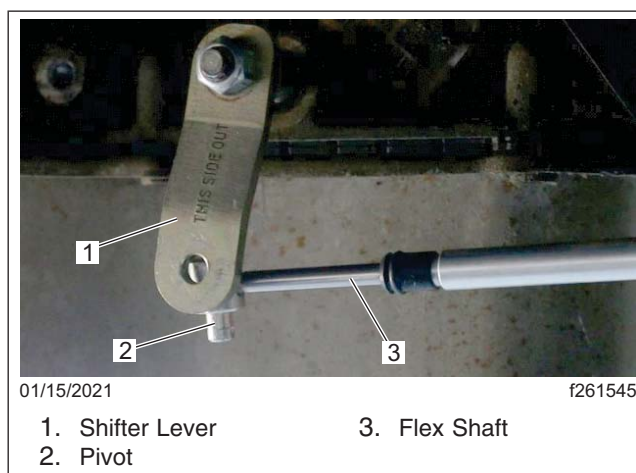

Fig. 1, Shifter Lever and Pivot Disconnected
6. Remove the cotter pin, and disconnect the shaft pivot from the shifter lever. Rotate the shaft pivot 90 degrees, so that the pivot axis is vertical and the pivot pin does not accidentally engage to the transmission lever. See Fig. 1.